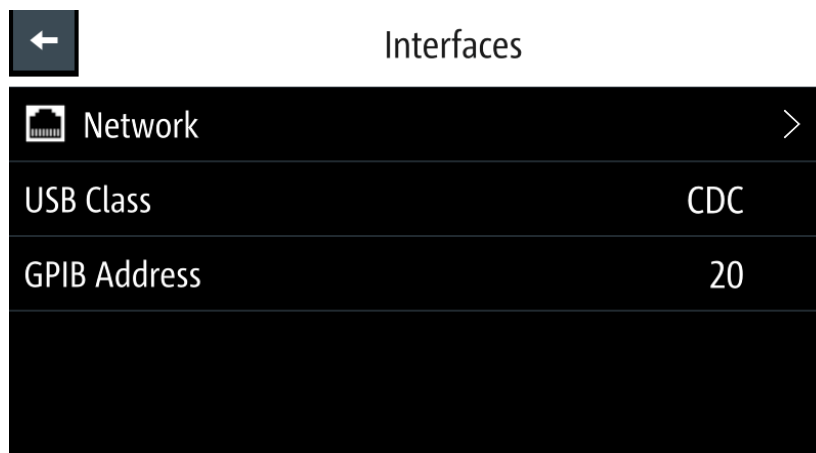

Figure 6-22: Interfaces dialog
1. Select "Network" from the Figure 6-22.
1. Select "GPIB Address" from the Figure 6-22.